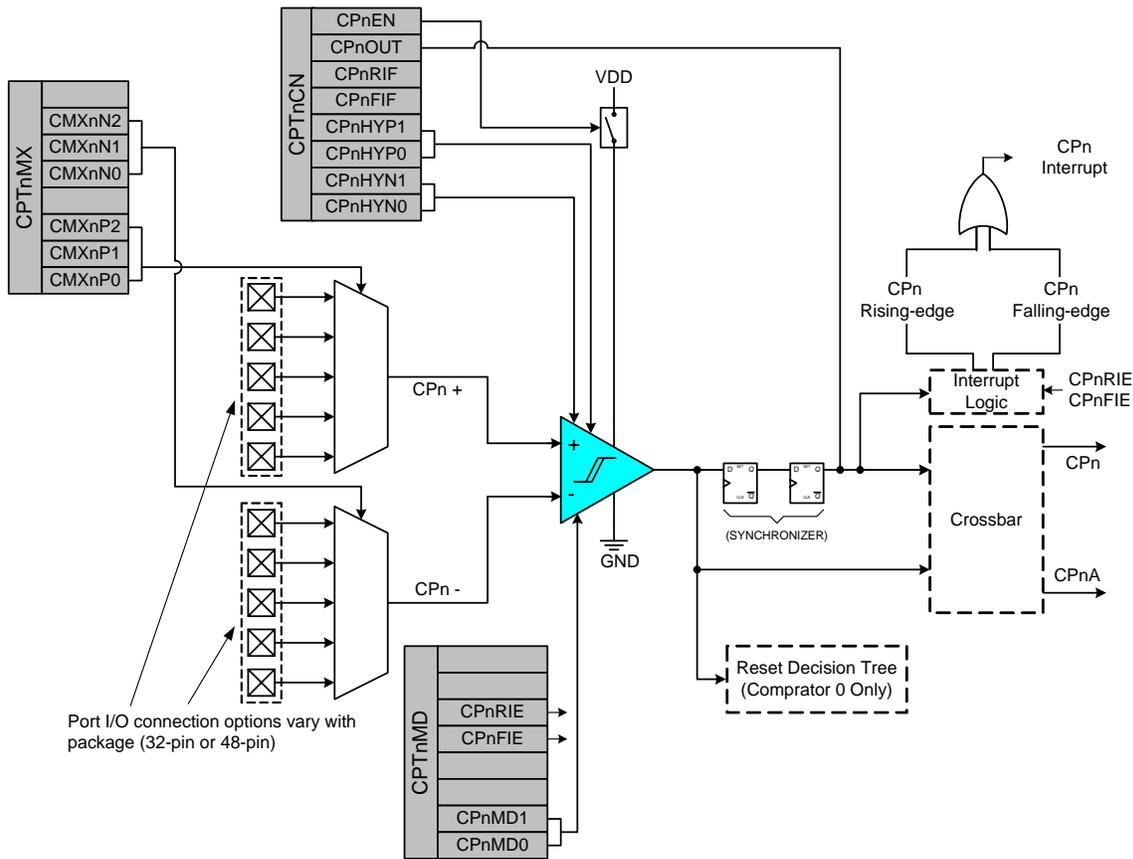

Figure 7.1. Comparator Functional Block Diagram
C8051F340/1/2/3/4/5/6/7/8/9/A/B devices include two on-chip programmable voltage Comparators. A block diagram of the comparators is shown in Figure 7.1, where “n” is the comparator number (0 or 1). The two Comparators operate identically with the following exceptions: (1) Their input selections differ, and (2) Comparator0 can be used as a reset source. For input selection details, refer to SFR Definition 7.2 and SFR Definition 7.5.